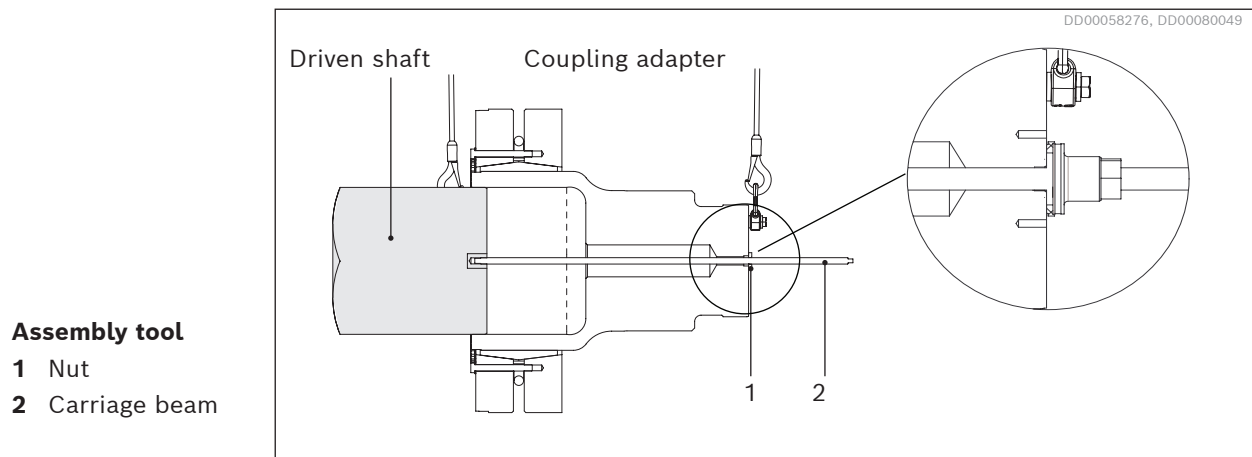

Fig. 41: Mounting the coupling adapter on the driven shaft with the assembly tool.
4. Pass the assembly tool through the centre of the coupling adapter and screw it into the driven shaft by using the squared key in the end of the tool, see *Fig. 41*